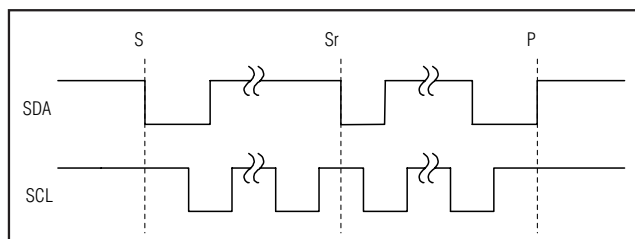

Figure 5. START and STOP Conditions
The master initiates a transmission with a START (S) condition, a high-to-low transition on SDA while SCL is high. The master terminates a transmission with a STOP (P) condition, a low-to-high transition on SDA while SCL is high (Figure 5). A repeated START ( $S_r$ ) condition can be used in place of a STOP condition to leave the bus active and the interface mode unchanged (see the *HS Mode* section).